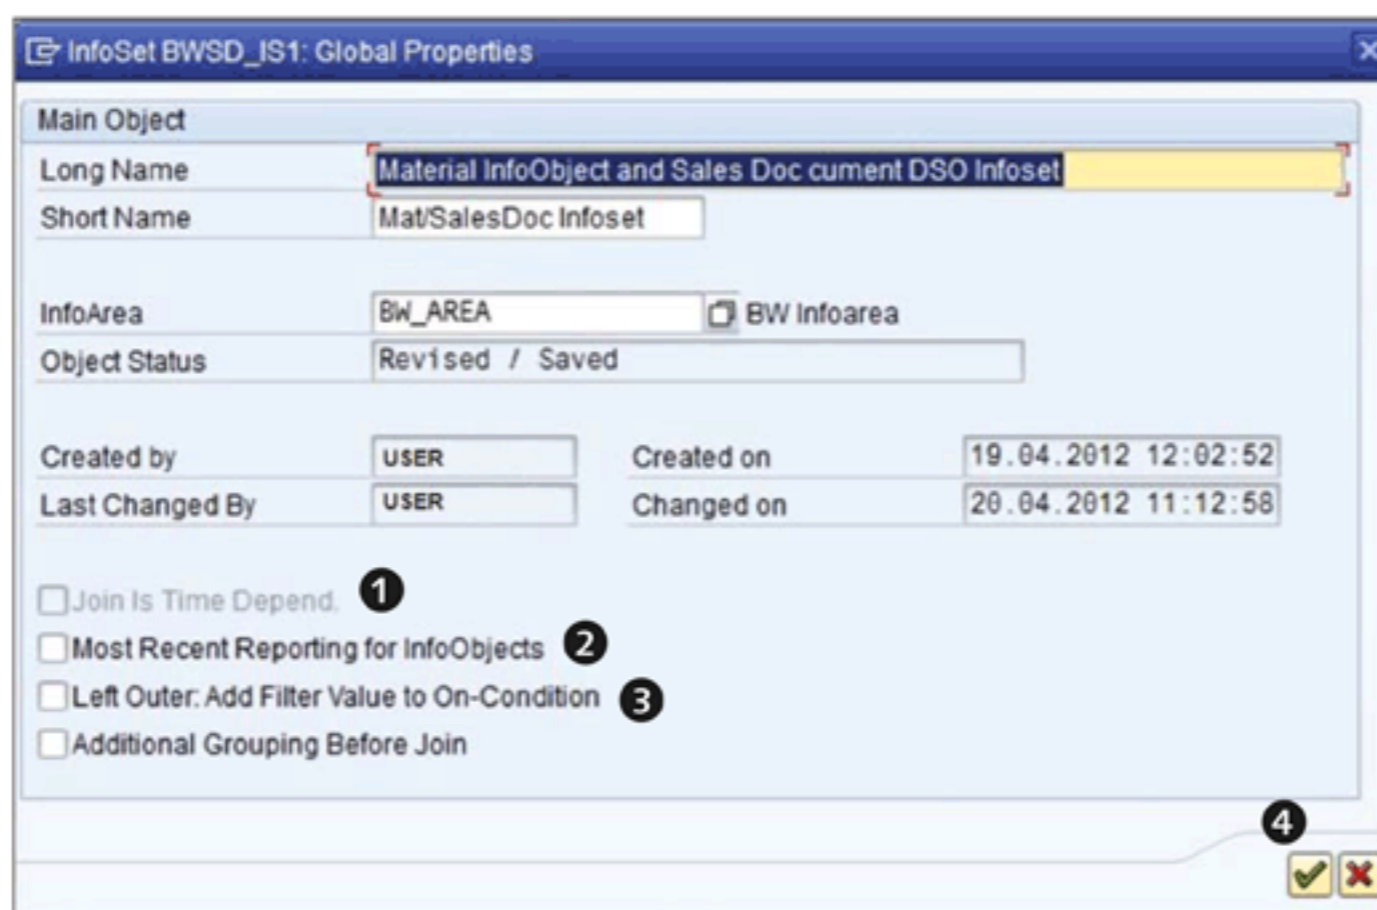

Figure 6.36 InfoSet Global Properties
A few properties are known as global properties for an InfoSet that can be accessed using the menu path GoTo • GLOBAL PROPERTIES. The INFOSET BWSD_IS1: GLOBAL PROPERTIES box appears, as shown in Figure 6.36.
This setting is display only (1 of Figure 6.36). If any of the underlying InfoProviders included in the definition of the InfoSet is an InfoObject with a time-dependent attribute, this checkbox is checked, and the join created is known
When you have a scenario where master data is loaded a number of times in SAP NetWeaver BW, there may be a delay in activating the newly loaded master data. However, using the settings available for InfoSets, you *can* report on this data, even if it isn't activated. To make this happen, check the setting MOST RECENT REPORTING FOR INFOOBJECTS, as shown in ❷ of Figure 6.36.
This indicator (❸ of Figure 6.36) is useful if you've used a *left outer join* when defining the join in the InfoSet. It's used to control how a condition on a field of the left outer table is converted into a SQL statement while the query based on this InfoSet is executed.